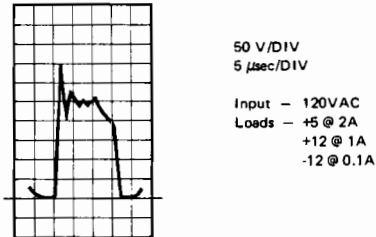

Figure 7-36. Q2 Collector Waveform
5. Check Q2 Waveforms. Using X10 probe on the case of T03 package of Q2, check the collector waveform. The transistor should be switching, with the correct waveform shown in Figure 7-36. If this is not present, check for a shorted junction on Q2.